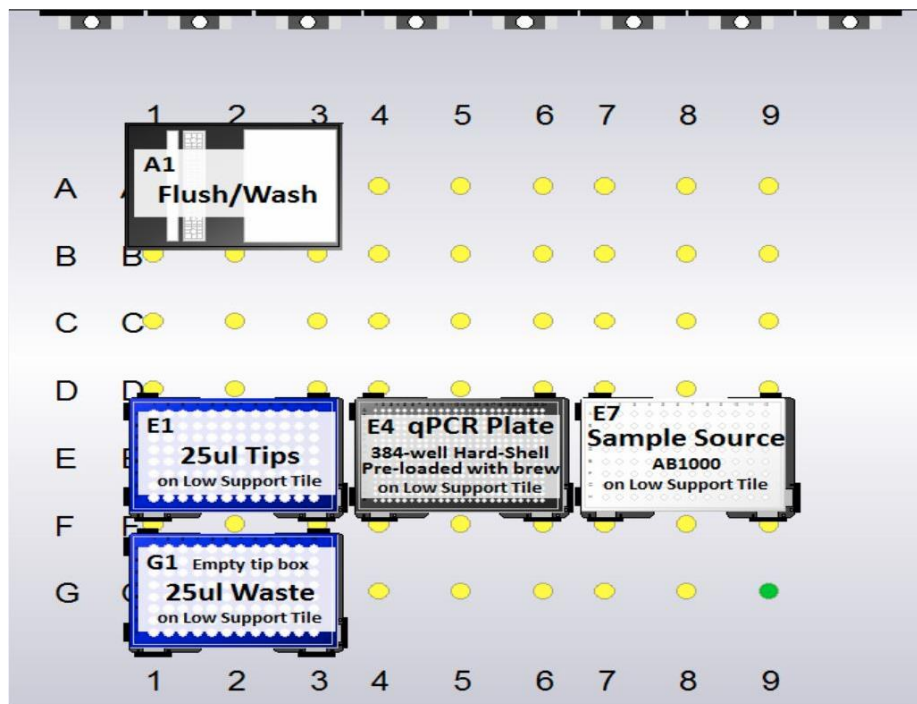

Figure 22: Deck layout
4.17. Set up the deck as illustrated in Figure 22. Move the pop up window out of the way if blocking the set up view. **Clicking OK will initiate the run.**